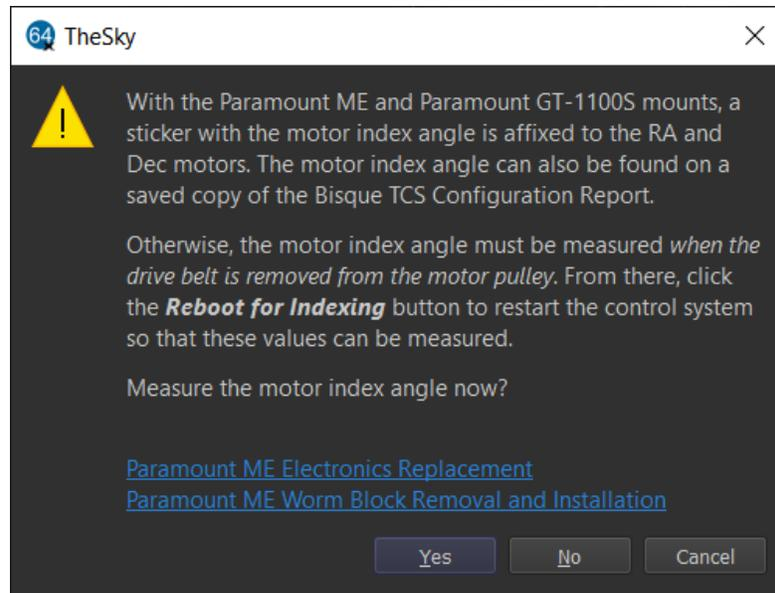

Figure 112: Prompt to measure the motor index angle.
- b. After double-checking that both axes are in the **Balance** position, click the **Measure HA Index Angle** button. When prompted, click **Yes** (Figure 112). The HA motor will rotate briefly as the motor index angle is measured, and a window showing the result is displayed.